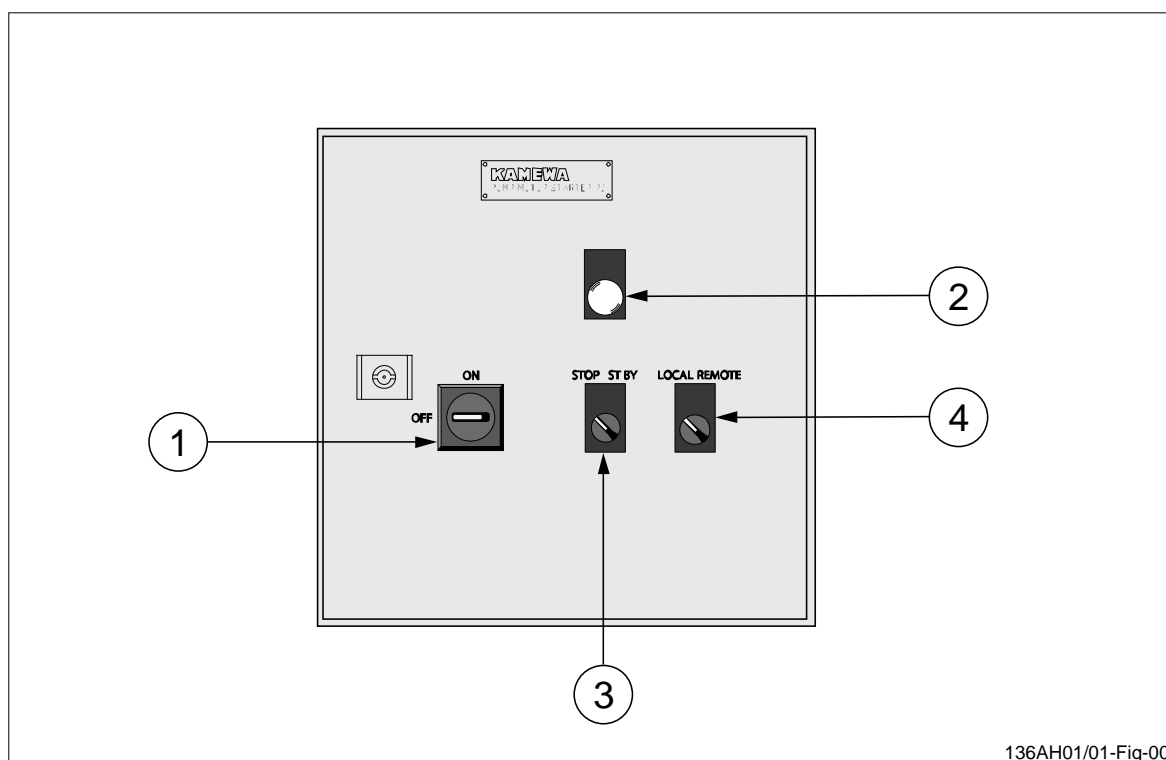

Figure 10 Front view of pump motor starter cabinet P3.
The pump motor starter cabinet includes a stop/run switch S1 and local/remote switch S2, (pos 3 and 4, figure 10).
- The pump unit P3 runs continuously if the stop/stand by switch S1 (pos 3, figure 10) is turned to RUN position.
- The pump unit P3 stops if the stop/stand by switch S1 (pos 3, figure 10) is turned to STOP position.